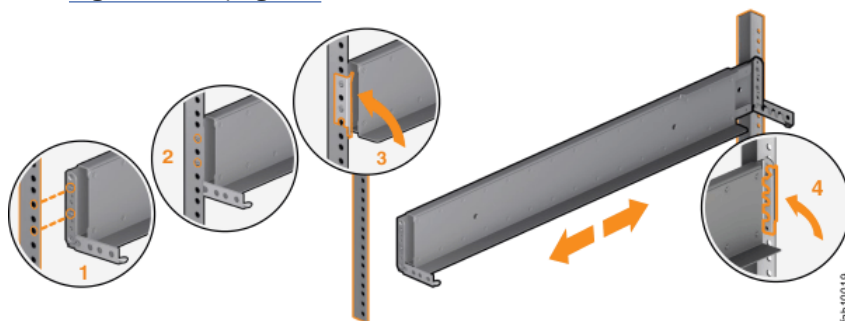

Figure 32. Closing the hinge brackets
- Close the rear hinge bracket to secure the rail to the rack cabinet flange. (See Figure 32 on page 71.)
- Close the front hinge bracket to secure the rail to the rack cabinet flange. See Figure 32 on page 71.